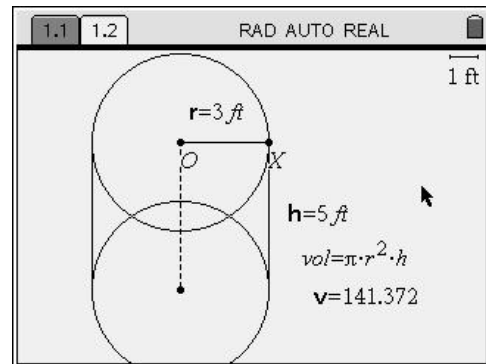

Figure 22
22. Store the volume as a variable. Move the arrow to the volume calculation. When the hand appears, press ENTER . The number should appear shaded. Next press CTRL VAR . Type V to overwrite *var*, and press ENTER . (Figure 22) Vary the radius and the height of the cylinder, and observe how the volume changes. Answer questions 6 & 7 on the answer sheet.